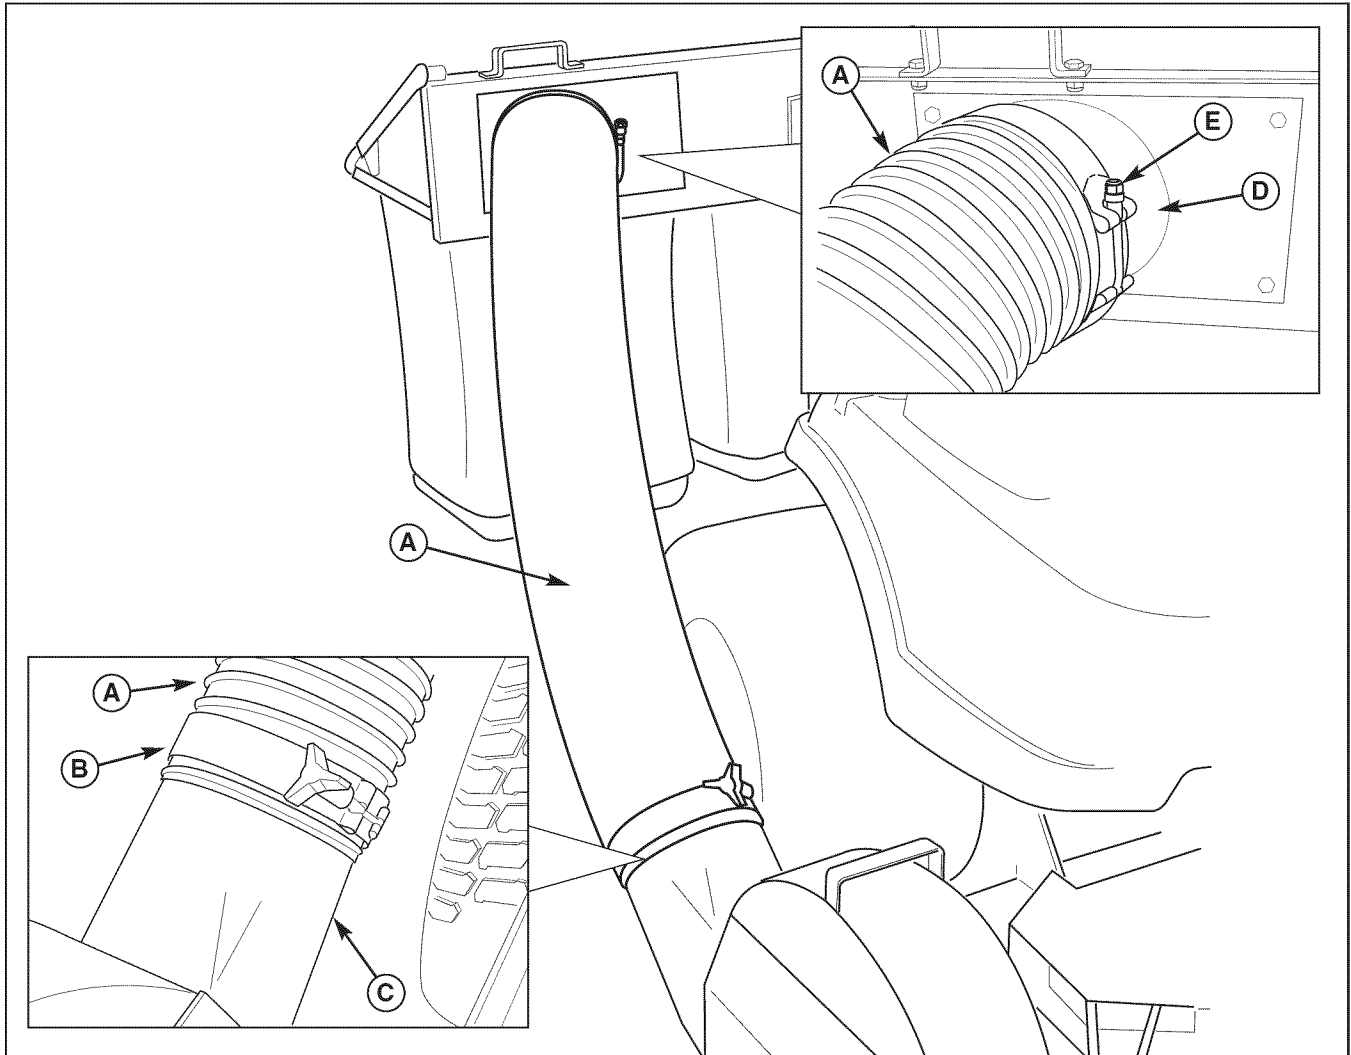

Figure 45. Install Hose
2. See Figure 45. Install the hose (A) onto the blower and secure with the removable clamp (with knob) (B). At least two bands must cover the outlet of the blower (C).
3. Cut the hose to fit properly between the blower and collector as shown in Figure 45. At least two bands must cover the inlet of the collector (D). Secure with the stationary clamp (E).